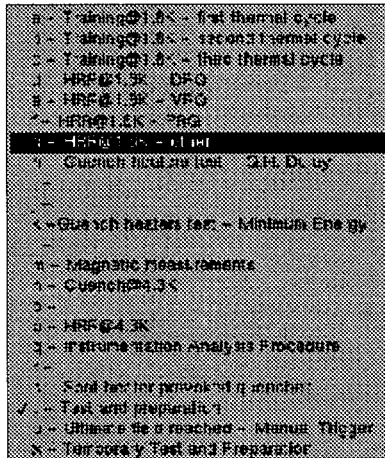

Fig. 13. Test type selection window
- This operation will initiate the corresponding application parameter sub panel for the selected hardware as shown in Fig.13. The name of the command file, which contains the sequence of defined commands, will also appear in the command file field of the sub panel. In the application parameter sub panel the user can perform any one of the following operation depending on the requirement.
- Choose the test type from the **test type** window shown in the Fig.13 This window can be initiated by clicking on the *test type* button of the test editor sub panel.
- The layout of the command editor sub panel can be understood from Fig. 13. It is divided into four windows.